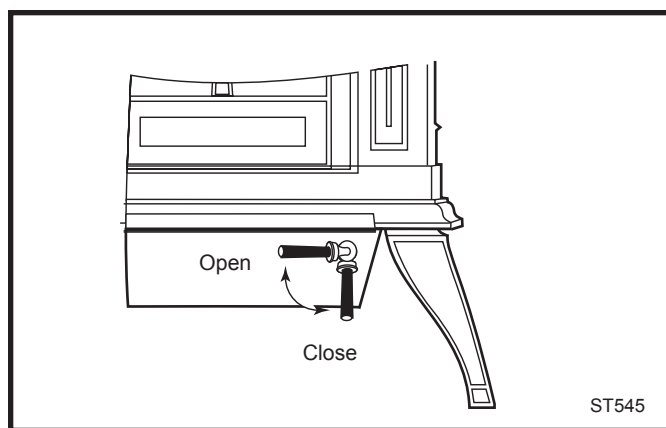

Fig. 40 Turn the ashdoor handle clockwise to open and counterclockwise to close.
- Close the griddle or doors, and unlatch the ash door. (Fig. 40) It will pivot, swinging the ash pan out of the stove.
- Return the ash pan to its original position in the stove, and close and latch the ash door. (Fig. 40)